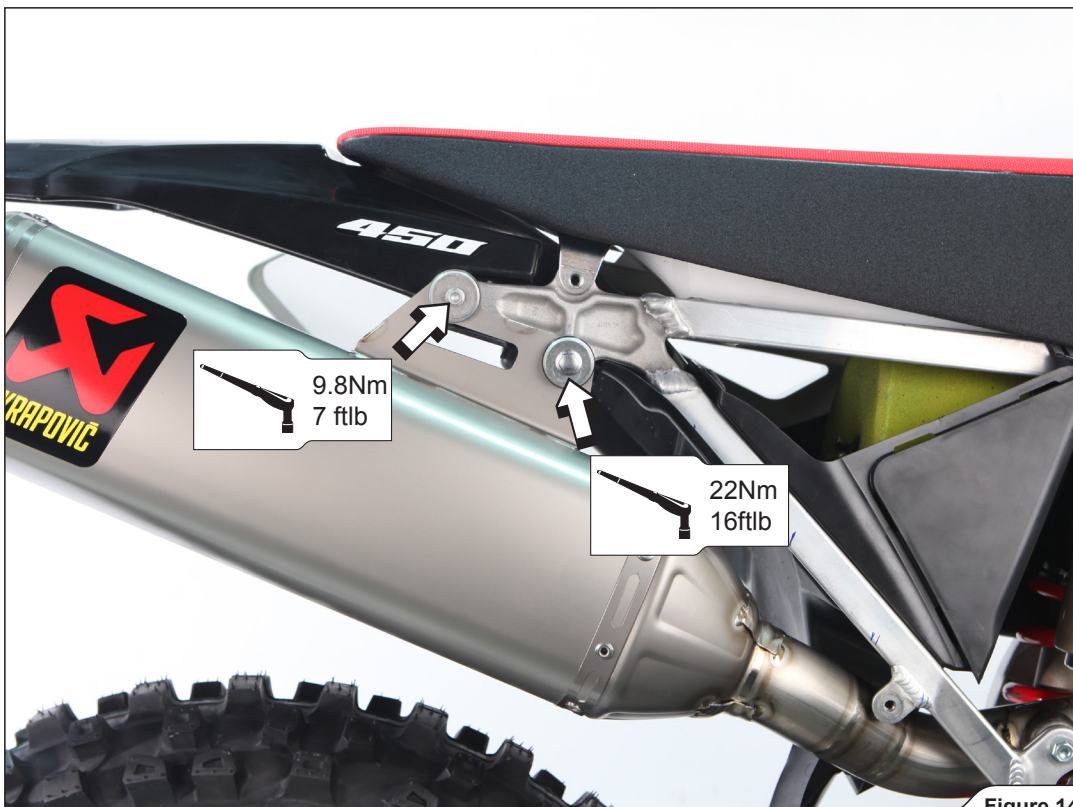

Figure 14
- Align the muffler in respect to the motorcycle and tighten the muffler's bracket bolt, link pipe's bracket bolt and clamp to the specified torque (Figure 14, 15).